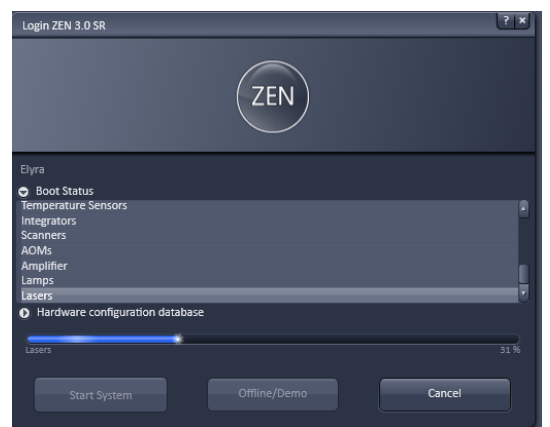

Fig. 12 Starting the ZEN software – The Login "ZEN" dialog with Boot Status field expanded and during the process of booting
- **Cancel** to abort the booting process and to leave the dialog. Note that the **Cancel** button will appear in the place of the **Image processing** button only if **Start System** or **Offline/Demo** was selected (Fig. 12).